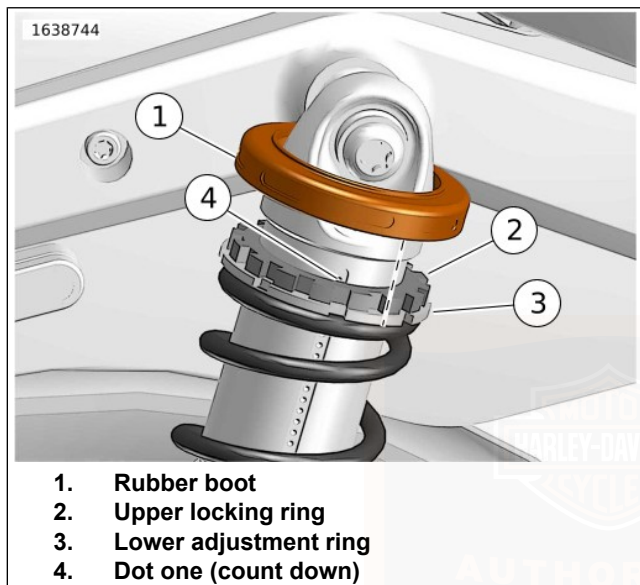

Figure 16. Preload Adjustment Arrow (Rubber Boot Raised for Clarity)
3. See Figure 16. Raise rubber boot (1) above upper locking ring (2).
See Figure 16. Rotate the lower adjustment ring (3) clockwise to increase preload. Rotate the lower adjustment ring counterclockwise to decrease preload.
See Figure 16. Count down from the top dot (4) on the shock dot scale to identify the recommended preload dot.
8. Cover one-half the recommended preload dot (4) with the upper locking ring.
9. Use the wrench to hand tighten the lower adjustment ring against the upper locking ring (5).
10. See Figure 16. Install rubber boot (1) in position.